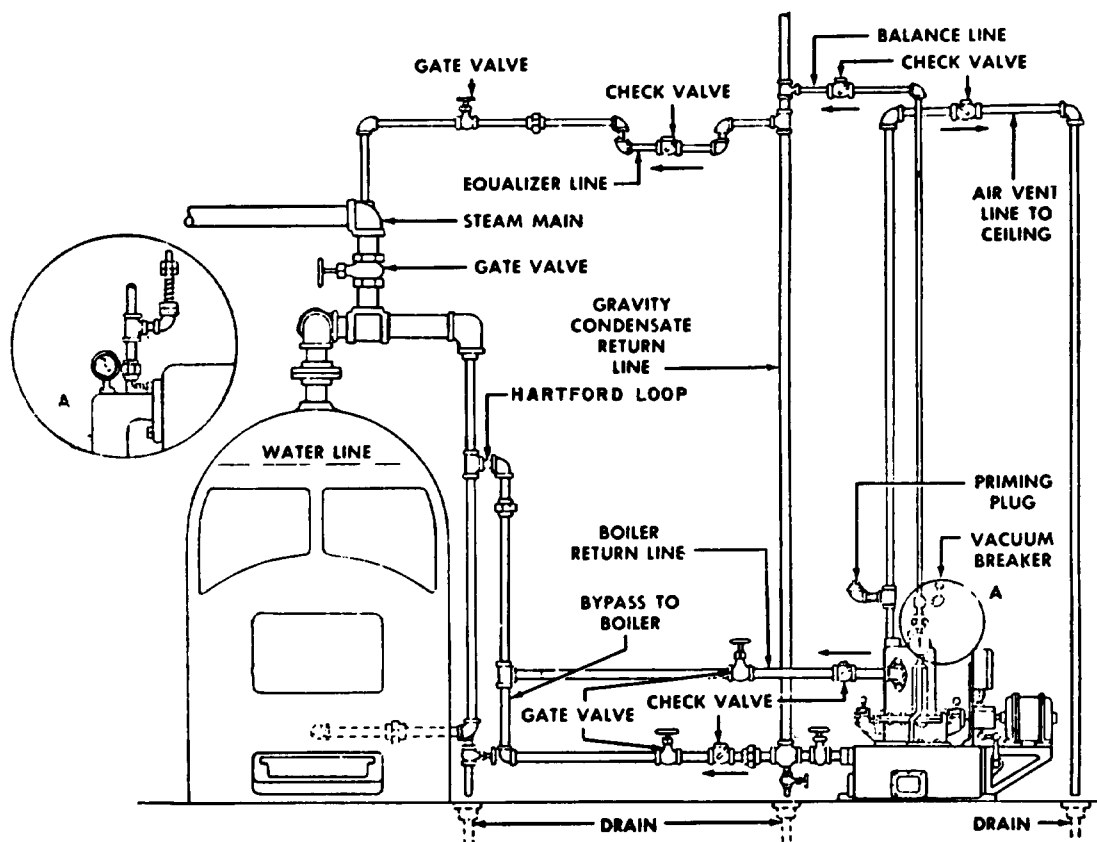

Figure 4-18. Single vacuum pump installation.
a. General. Figures 4-18 and 4-19 illustrate correct methods for installing vacuum pump units. In connecting pipes to the pump or receiver, a union is included in each line as close as possible to the unit for convenience in installation or repair. Pipe stress upon the unit should be prevented. Pipes used should not be smaller in size than their connections on the unit and should be at least one or two sizes larger if runs are long.